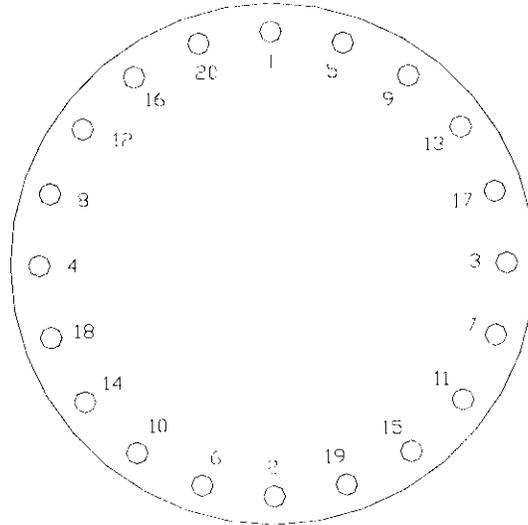

Figure 1.25 Tightening sequence for the 20 Conflat bolts.
- 1.23 On the power lead flange, number the Conflat bolt holes 1 through 20 as indicated by Figure 1.25.
- 1.25** Use a 5/16 12-point socket to tighten the 20 Conflat bolts. The tightening must be made gradually in $\frac{1}{4}$ turn increments to a final torque of 15 ft-lbf (180 in-lbf). The tightening sequence is given by Fig. 1.25.